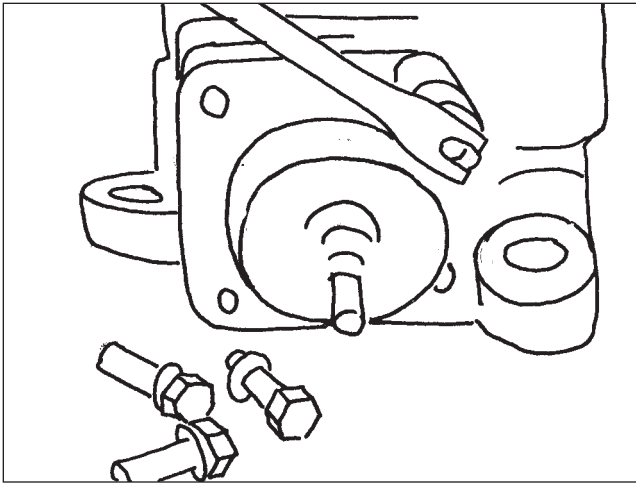

Figure 135
13. Using the four (4) longest mounting bolts, tighten the bearing cap to the housing and torque to specifications (**Figure 135**).